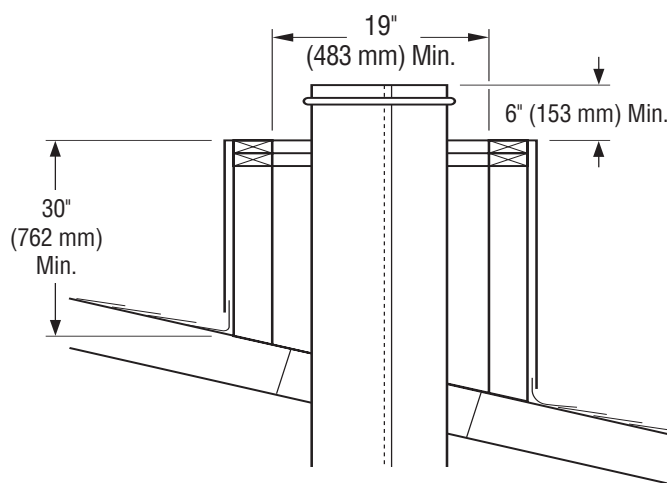

Figure 27 - Constructing Chase
1. Construct chase as illustrated in Figure 27. **Note:** The shortest vertical side must be at least 30" high and the minimum inside dimension must be at least 19" as shown in Figure 27.
2. Add pipe sections to chimney system as outlined in fireplace installation instructions until the last piece of chimney is a minimum of 6" above chase top (see Figure 27).